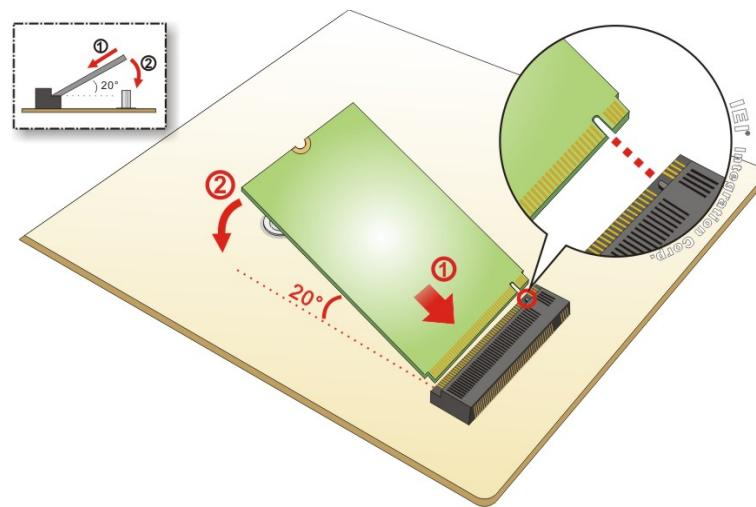

Figure 3-6: Inserting the WLAN Module
Step 2: Line up the notch on the WLAN module with the notch on the slot. Slide the WLAN module into the slot at an angle of about 20° (**Figure 3-6**).